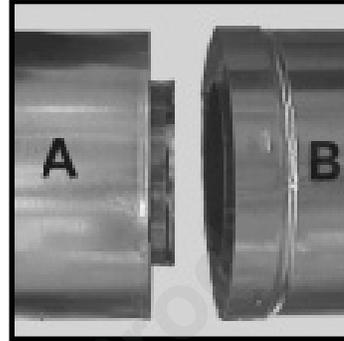
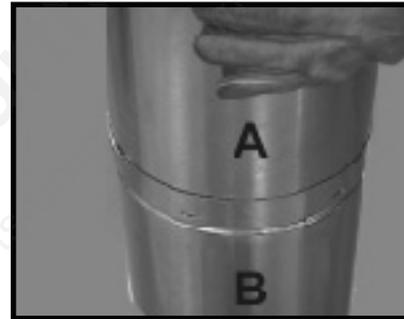

Figure 19
Figure 20
- b. Insert the outer flue of section "A" into the outer flue of section "B". See Figure 19. Once both inner and outer flues are started, press section "A" into section "B" firmly until all lances have snapped into place. Tug slightly on section "A" to confirm it has completely locked into place. See Figure 20.